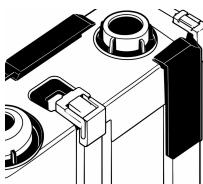

Fig. 5 - Position filter
- 4.** Hang the filter on the aquarium wall. Adjust the brackets and support to suit the glass thickness and keep the filter correctly positioned (Fig. 5).